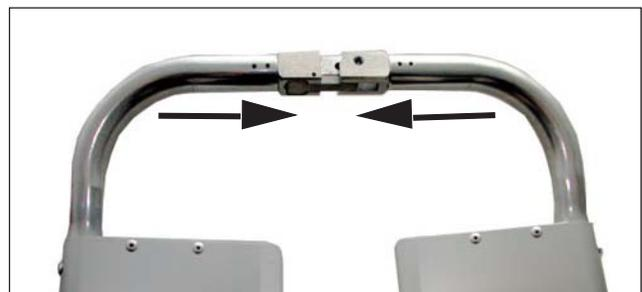

Figure 3 - Hinge Coupling Locked
To lock a hinge, align the hinge halves and push both sides of the coupling together until they lock into place (Figure 3).
3. Rejoin the scoop halves by locking the hinges (Figure 3, page 8).